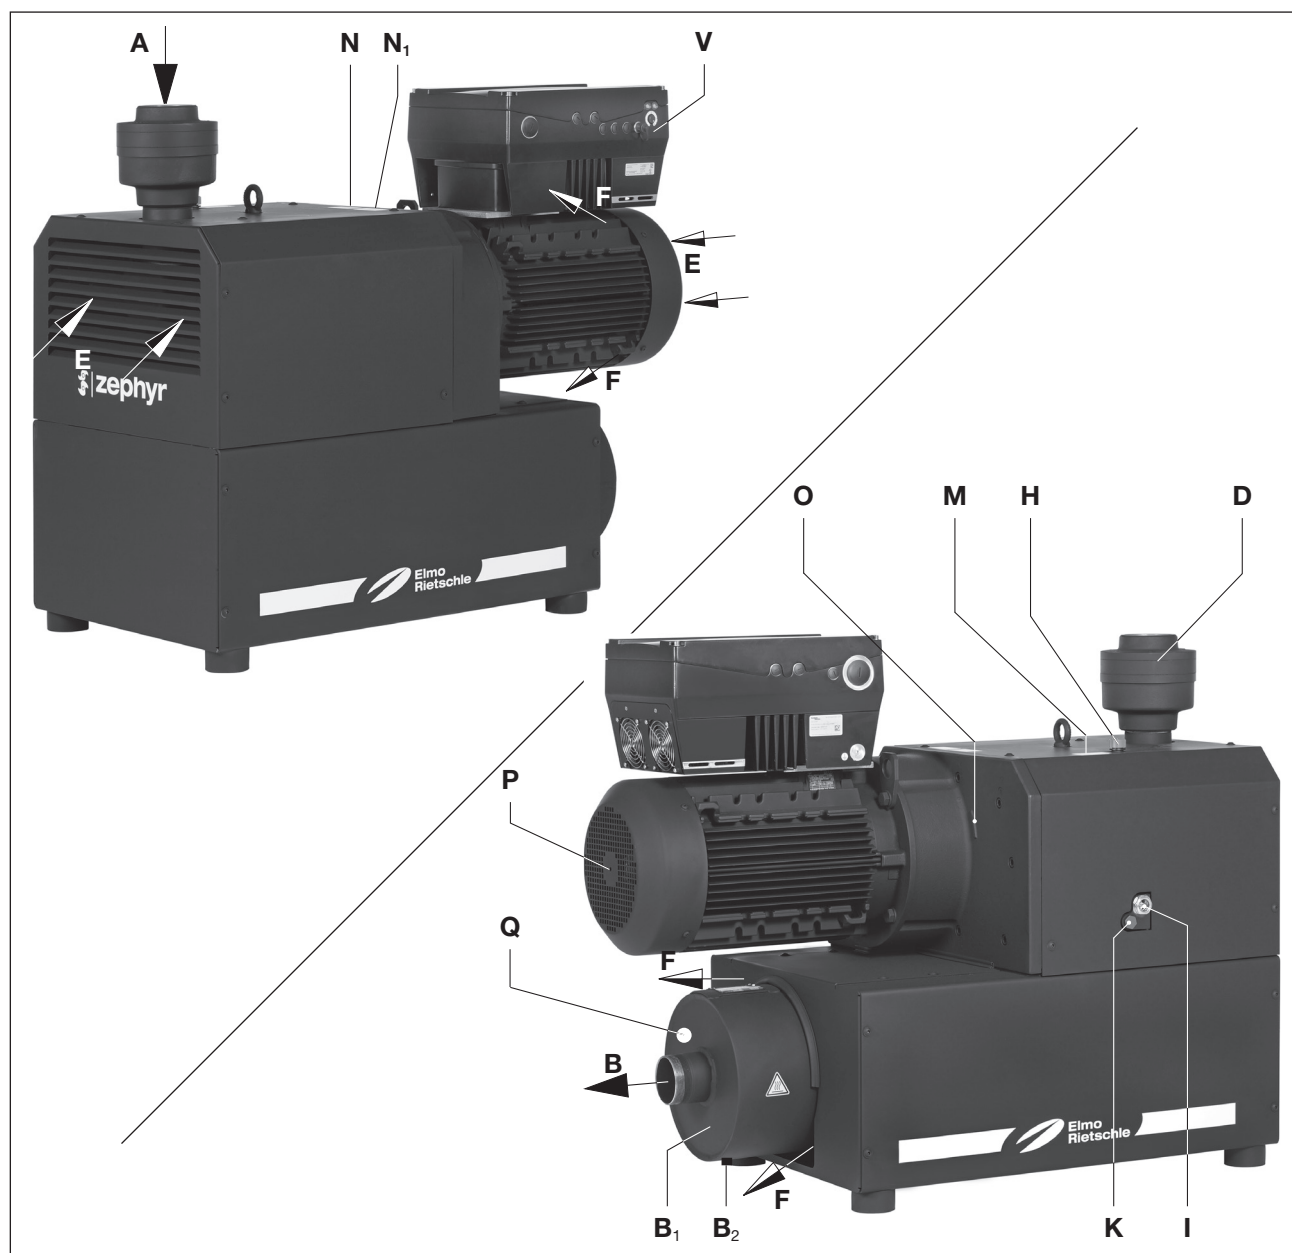

Fig. 2 Vacuum pump C-VLR 401 and C-VLR 501
- the machine must only be operated at speed and frequency range according to the data plate (Fig. 2/N₁)
The C-VLR 401 and C-VLR 501 model has a connection flange on the inlet side and an exhaust silencer on the pressure side (Fig. 2/B₁). The air sucked in is cleaned by a micro-filter. An non-return valve (Fig. 2/D) prevents the evacuated system from being ventilated after the pump has stopped.
The gearbox and the compression chamber are separated from each other by special seals. The gearbox is sealed from the outside with shaft seals and O rings, the compressor chamber with piston rings. The VLR 401 and VLR 501 are enclosed in an insulating hood. In order to dissipate compression heat, the cooling air is sucked through between the machine and the hood using a drum fan that sucks in the fresh cooling air (Fig. 2/E) and discharges the heated air out of the cooling air outlet (Fig. 2/F).
Three-phase motor with integral frequency converter (Fig. 2/V) makes possible infinitely variable control of the speed.
The oil filling point (Fig. 2/H), oil sight glass (Fig. 2/I) and the oil outlets (Fig. 2/K) must be easily accessible. The cooling air inlets (Fig. 2/E) and the cooling air outlets (Fig. 2/F) must be at least 30 cm away from adjacent walls. Cooling air coming out must not be sucked in again.
- a) Vacuum connection at (Fig. 2/A).
- c) The extracted air can be discharged through the exhaust silencer (Fig. 2/B) or conducted away via a pipe.
- a) Fill the lubricating oil (for suitable types see "Maintenance") for the gear wheels and oil filling point (Fig. 2/H) up to the middle of the sight glasses (Fig. 2/I).
- b) Connect the frequency converter (Fig. 2/V) according to the operating instructions 610.00260.40.000 or with the attached connection diagram. For the observance with the protection class IP 65 shall be provided suitable cable glands resp. shutters. The electric network connection values are to be taken from the type label of the frequency converter.
When the machine is at operating temperature the surface temperatures on the components (Fig. 2/ Q) may go above 70°C.